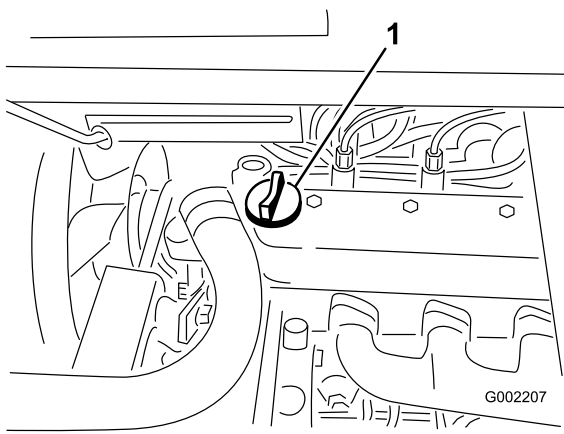

Figure 40
3. If the oil level is low, remove the filler cap from the valve cover (Figure 40) and pour oil into the opening until the oil level is up to the Full mark on the dipstick; refer to Servicing the Engine Oil for the proper oil type and viscosity. Add the oil slowly and check the level often during this process. Do not overfill.